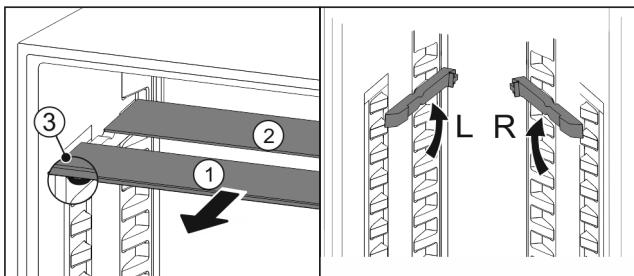

Fig. 26
- Pull the glass panels out Fig. 26 (1) from the front, one at a time.
- The glass panel Fig. 26 (1) and trim strip are at the front.
- The stops Fig. 26 (3) point down.